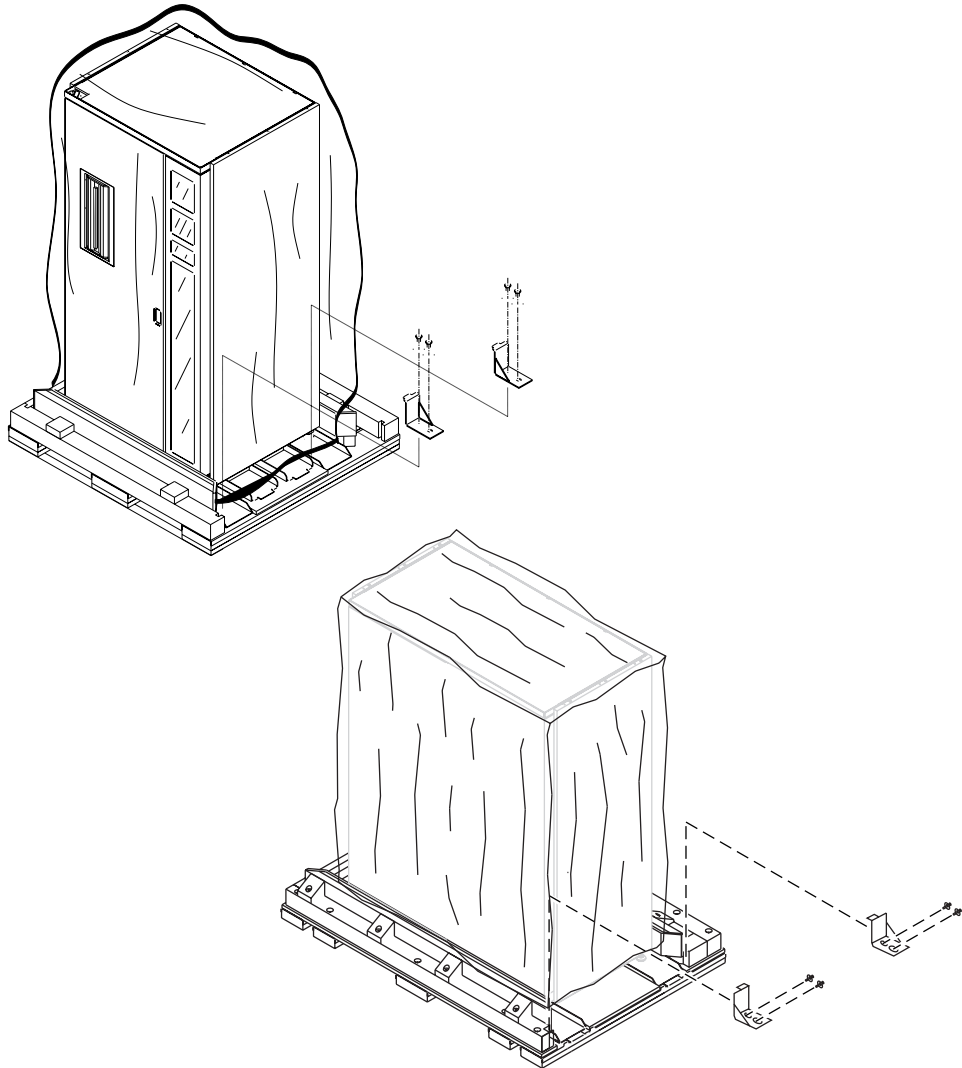

Figure 4-7. Removing the stop blocks
12. Remove the two stop blocks from under the left side of the library (see Figure 4-7).